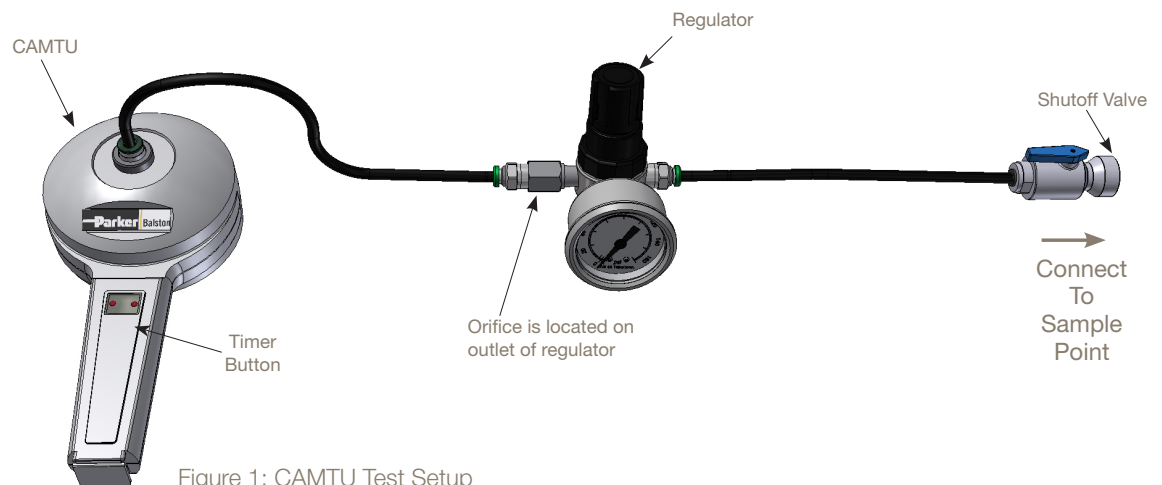

Figure 1: CAMTU Test Setup
2. Assemble the tubing to the shutoff valve, regulator and CAMTU as shown in Figure 1 and connect to a compressed airline (150 psig or less).
2. Assemble the tubing to the shutoff valve, regulator and CAMTU as shown in Figure 1 and connect to the compressed air system.